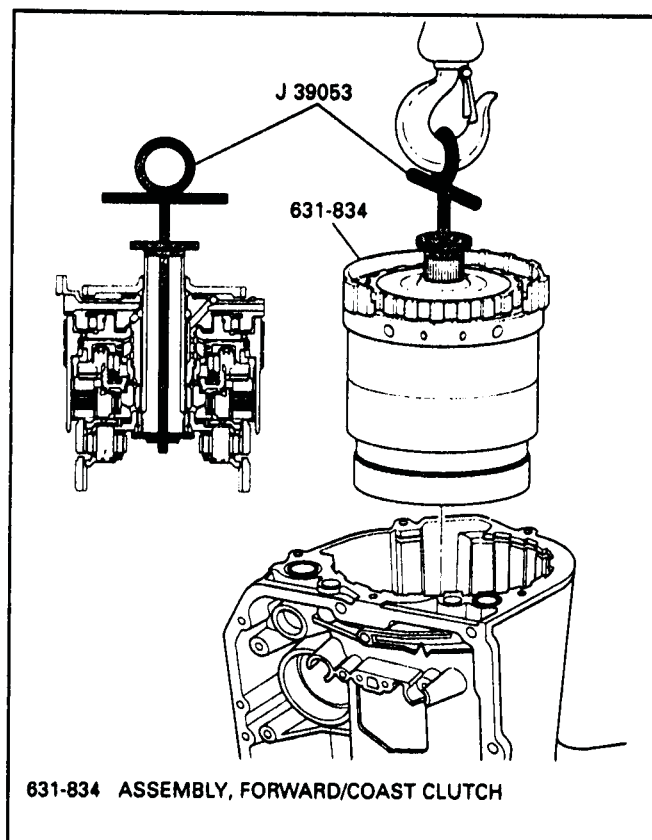

Figure 60
2. Install forward/coast clutch puller J-39053 and tighten nut on puller as shown in Figure 60.